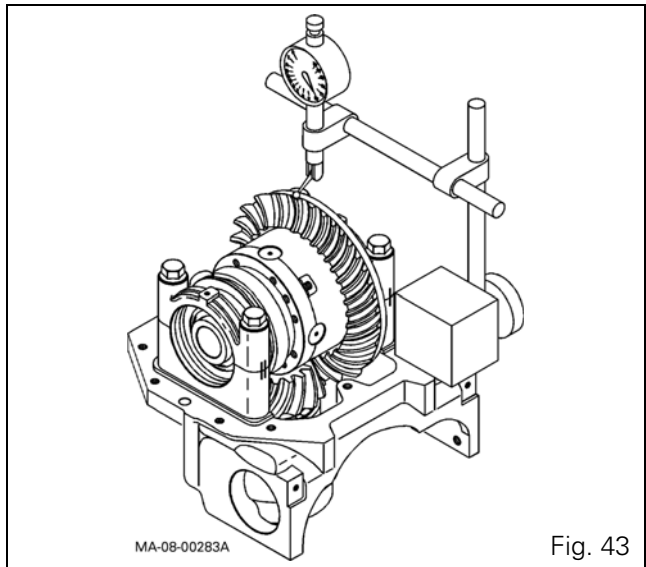

Fig. 43
48. Place a dial gauge with a magnetic stand on the differential housing and move the dial gauge feeler pin until it comes into contact with a ring gear tooth at a 90° angle (Fig. 43).